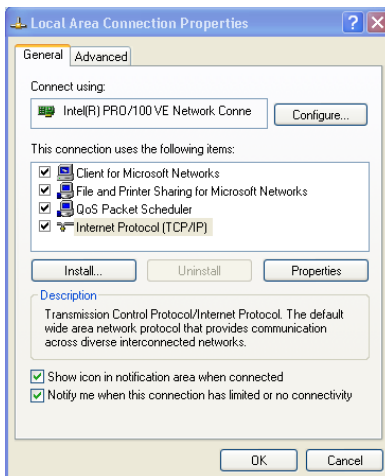

Figure 6: Local Area Connection Properties Window
5. Select the Internet Protocol (TCP/IP) and click the **Properties** Button (see Figure 6).